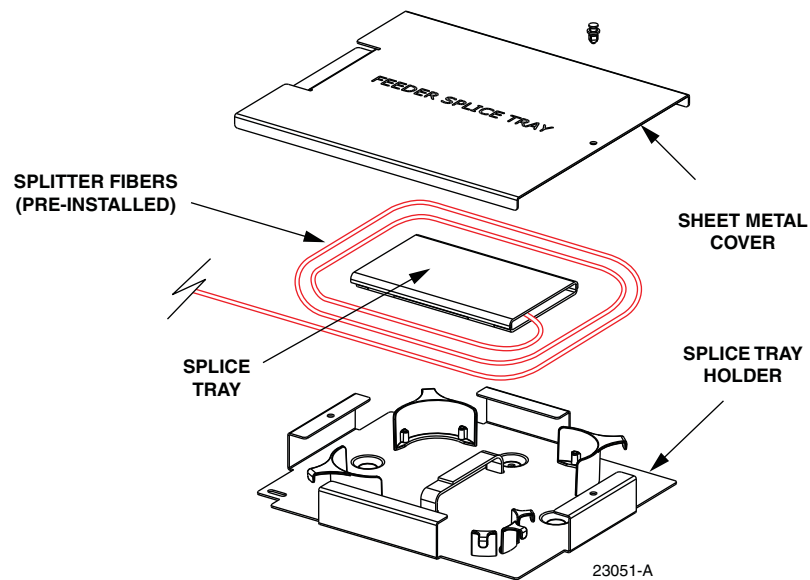

Figure 35. Feeder Splice Tray Assembly
- Lift the sheet metal cover away from the splice tray holder as shown in Figure 35.
2. Lift the sheet metal cover (shown previously in Figure 35) away from the splice tray holder.